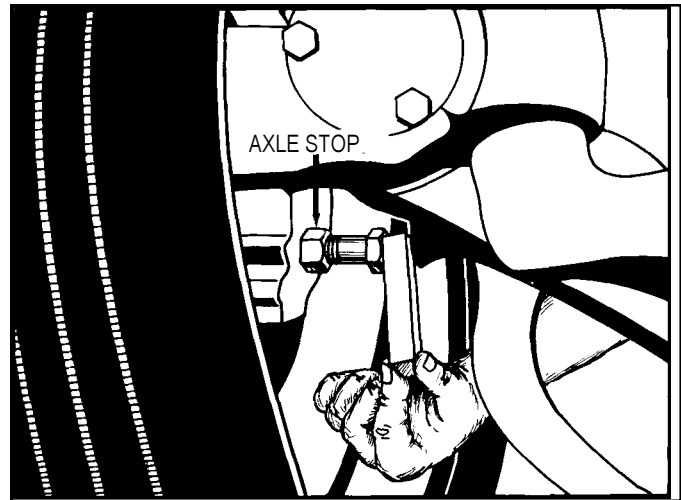

FIGURE 50
3. Turn the steering wheel until the axle stops contact the spacer block. (See Figure 50) Apply sufficient torque to the steering wheel to assure the power steering gear control valve is completely open in the direction of the turn. At this time the pressure gauge will read the gear pressure relief setting. If the pressure reading is above
- A. With the engine stopped, remove the pressure relief valve plug (3) sealing washer (4) adjusting shims (5) and spring (6).
5. Run the engine at idle. Turn the steering wheel until the axle stop contacts the spacer block. (See Figure 50) Apply a sufficient torque to the steering wheel to assure the power steering gear control valve is completely open in the direction of the turn. Observe the following.